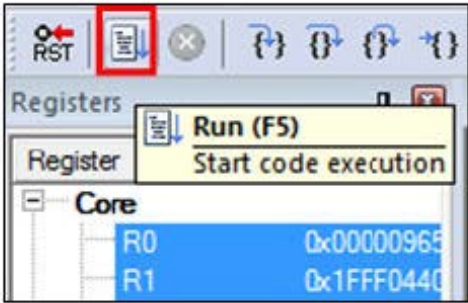

Figure 38. Run button
5. Run the code by clicking **Run** to start the application, as shown in Figure 38.